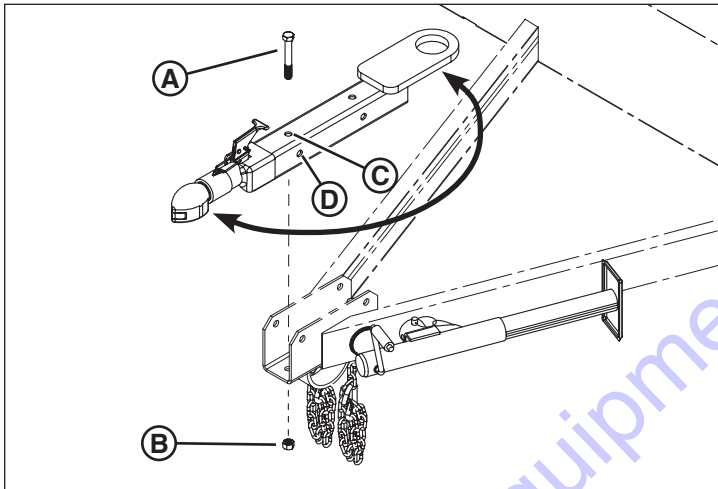

Figure 10
2. Remove the two hex head screws (A, Figure 10) and lock nuts (B) securing the tubular portion of the lunette eye to the tongue. Discard the lock nuts.
4. Insert the two hex head screws removed in Step 1 through the appropriate holes in the tongue and through the holes in the tubular portion of the lunette eye (C, D, Figure 10).